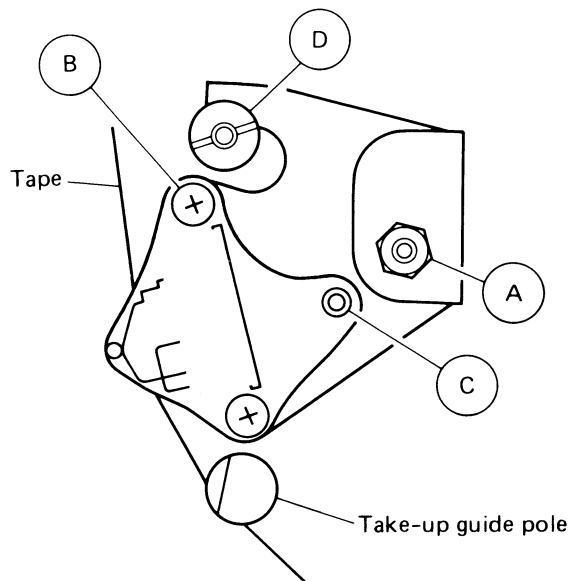

Fig. 7 - A
3. Turn nut (A), screws (B) and (C) in succession by small and equal increments at a time and adjust for maximum audio output level. With reference to nut (A), adjust azimuth with screws (B) and (C) so that small tape wrinkles are not produced at the guide pole, but at the same time, audio output becomes maximum and level fluctuations minimum. It is suggested to first turn nut (A) by a small amount, then turn screws (B) and (C) by an equal amount and set for maximum output.
4. Carefully and evenly adjust nut (A), screws (B) and (C) to align the audio/control head height with the tape as shown in Fig. 7.